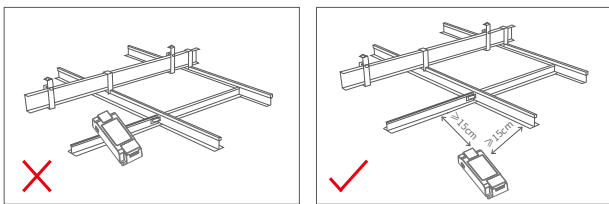

Figure 3
- The driver should be kept at a certain distance from large metal objects; the recommended spacing should be $\geq 15\text{cm}$ to avoid signal interference, as shown in Figure 3.